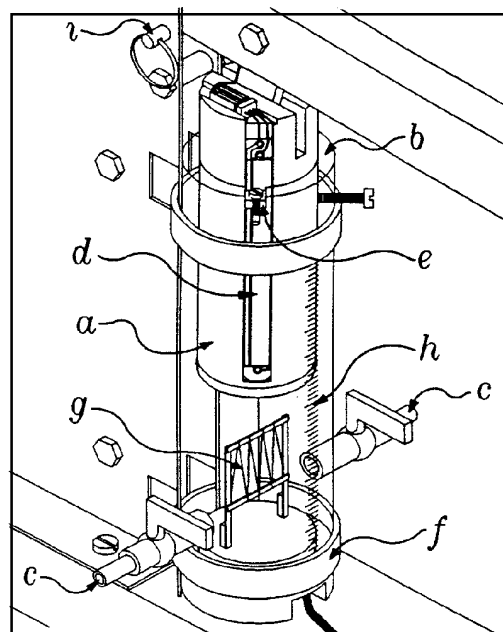

Figure 2, Cylinder
A piston, Fig 2, item a, made of acetal plastic is manually driven down or up in an acrylic cylinder, Fig 2, item b, which is filled with any of several gases, including monatomic argon, diatomic air or nitrogen, triatomic carbon-dioxide, and other polyatomic gases, which are injected and exhausted through the two brass gas cocks, Fig 2, item c. Mounted on the side of the piston is a linear potential divider, Fig 2, item d, used to monitor the position of the piston. The 5 volt source from the computer, or other low voltage source available, is applied across the potentiometer element. The voltage from the commutator brush, Fig 2, item e, is then used to indicate the position of the piston and thus the volume of the confined gas.
The acetal base, Fig 2, item f, which seals the bottom of the cylinder has two transducers mounted on it. Sealed against the lower surface of the base is a solid state pressure transducer. The active element of the transducer is a piezo-resistive device which forms part of a bridge circuit. Mounted in the cylinder on the top of the base is the temperature sensor, Fig 2, item g. The active element is an extremely fine nickel wire which has a very high temperature coefficient of resistance. The fine wire also has a high surface to mass ratio which allows its temperature to change rapidly as the gas compresses or expands. (However, there is still a small delay or time lag.) This wire is also one arm of a bridge circuit. The electronic circuitry of the apparatus consists of two excitation voltage supplies and appropriate amplifiers for the two bridge circuits. The outputs of the amplifiers are analog voltages proportional to the pressure and temperature respectively.
► **IMPORTANT:** The temperature sensor, Fig 2, item g, on the cylinder and the commutator brush, Fig 2, item e, associated with the volume transducer are extremely fragile. There should be no need to disassemble the cylinder. If it is ever necessary, remove the commutator brush, Fig 2, item e, at the top of the cylinder before removing the piston. Next remove the base, carefully avoiding any contact with the temperature sensor. Damage to the temperature sensor will necessitate returning the equipment to the manufacturer for repair and re-calibration.
A transparent millimeter scale, Fig 2, item h, on the front of the cylinder facilitates direct measurement of the initial and final piston position of "volume" to use in the computations or to calibrate the volume data acquisition. Two removable pins, Fig 2, item i, are provided to vary the excursion of the piston by limiting the motion of the piston lever. Holes to store the pins when not used are provided directly above the central label.